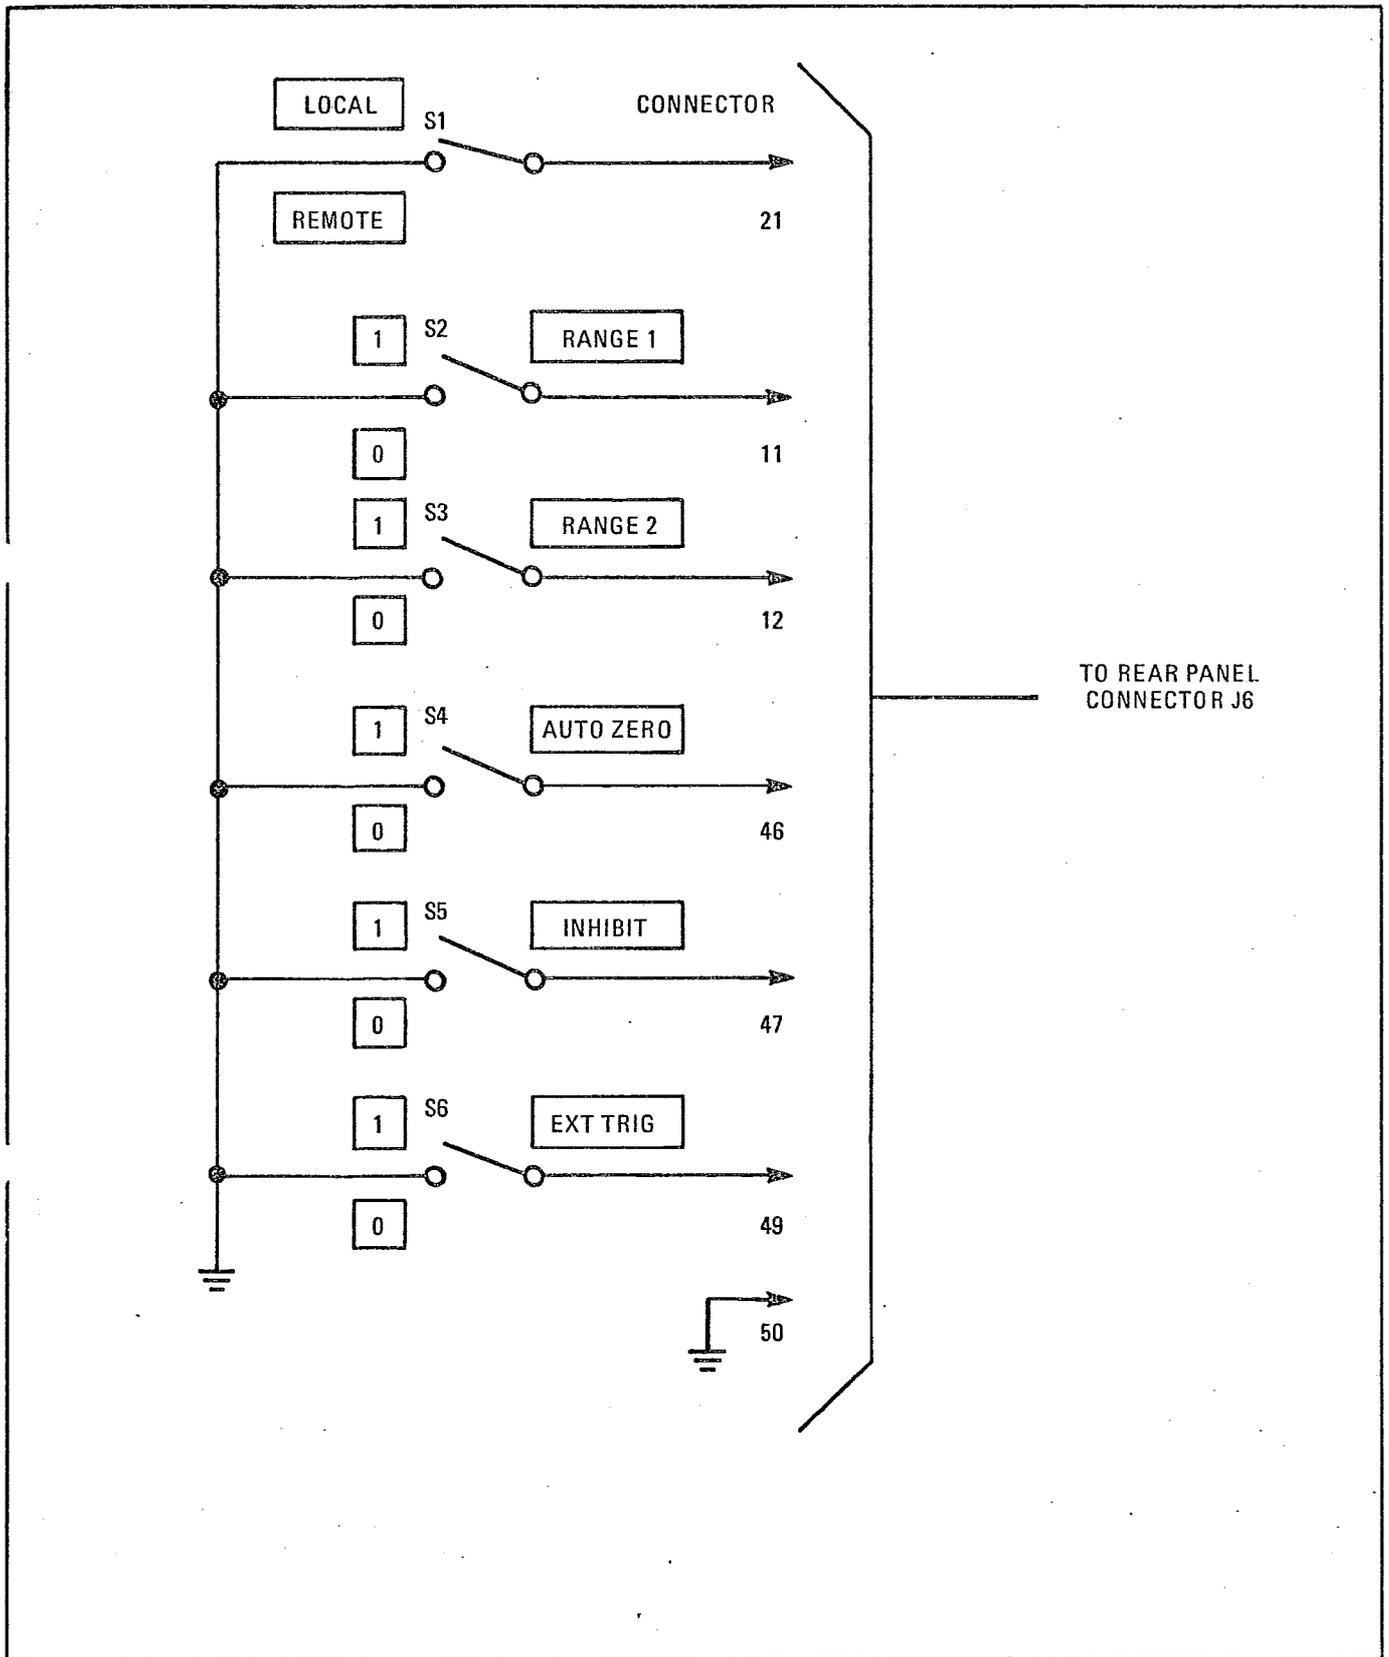

Figure 5. Remote Control Test Set
- Remote Control Test Set . . . . . (See Figure 5)